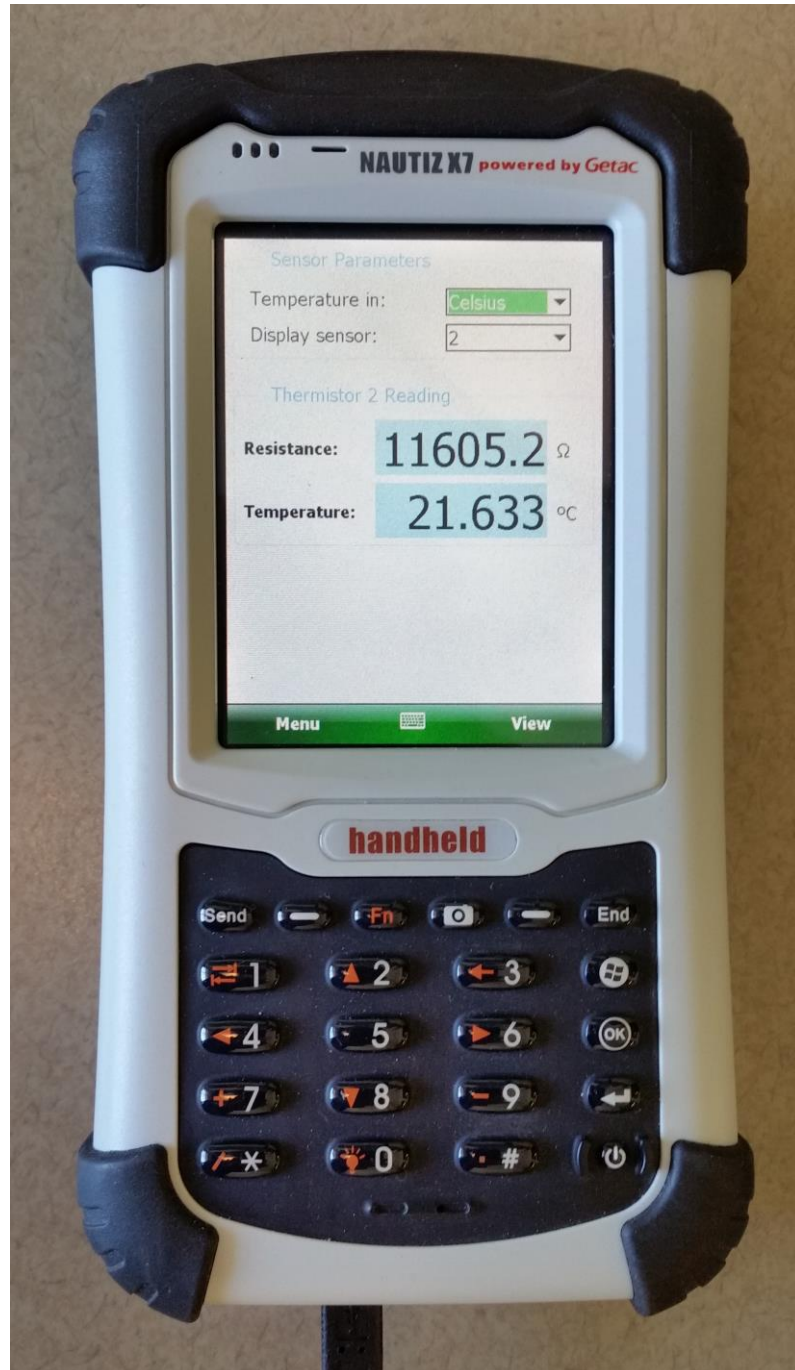

Figure 3 - Hand-held PC running Addressable Thermistor String Reader
- The Readout Unit, consisting of a Windows Mobile handheld PC running the Addressable Thermistor String Reader Application (see Figure 3).
The Addressable Thermistor Reader Application (the "App") installs and runs on a ruggedized hand-held PC (see Figure 3) and is designed to communicate via a USB to RS-485 converter to an addressable string of thermistors.